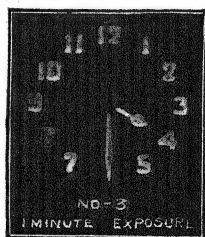

FIG. 350. — Hands of a watch photographed by their radium coating.
watches, and the sights of guns that are to be used for night firing. (See Fig. 350.) (4) Radium is *active chemically*; it decomposes water, changes oxygen to ozone, and imparts a purple color to glass. It resembles the metals of the calcium family in its chemical behavior. (5) The *physiological effects* of radium are pronounced. It may destroy the germinating power of seeds, kill bacteria, or even kill small animals. Radium produces frightful burns that re-